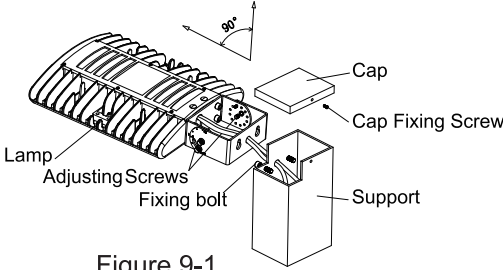

Figure 9-1
Step 1: Release the cap fixing screw and take the cap down; Release the fixing bolt and fix the light on the support;Tighten the fixing bolts.(Figure 9-1)
Step 2: Let the AC wire through hole of the support; Wire AC line correctly and put it into the support; Tighten cap fixing screw.(Figure 9-1)
Step 3: Release adjusting screws; Adjust light angle as per actual demands; Tighten adjusting screws.(Figure 9-1)
**Attention: adjustable angle range: 0-90 degree.(Figure 9-1)**